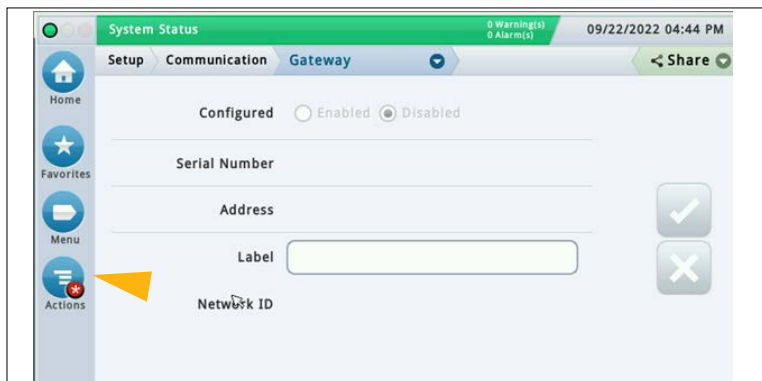

Figure 15. Gateway Setup Screen
2. In the Gateway setup screen select the Actions button (see Figure 15).
3. In the Gateway setup screen select the Actions button (see Figure 15).